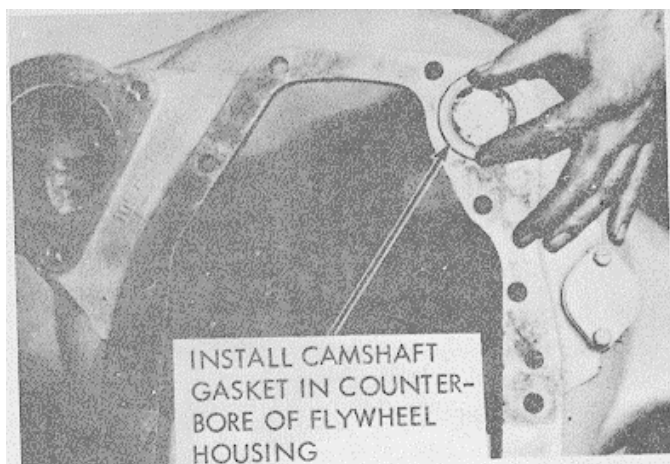

Figure 3-167. Camshaft counterbore gasket installation.
(1) Position (with adhesive) new gasket in camshaft counterbore of flywheel housing, figure 3-167. Be sure gasket is set firmly in place.
(2) If engine is to be subjected to dusty conditions, install neoprene sponge rubber seal between flywheel housing and oil pan. Seal is equipped with a fabric pull tape or cotter key to facilitate removal of seal (to allow removal of oil pan).
(3) Mount flywheel housing to cylinder block and oil pan with lockwashers, flatwashers and capscrews; snug-tighten capscrews.